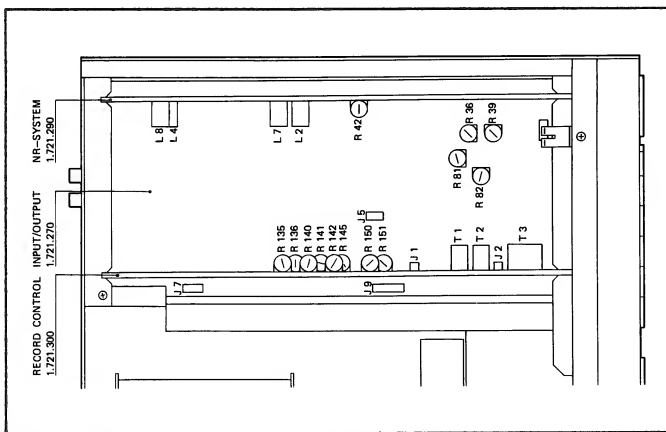

Fig. 5.1
- Align inductors L2 and L4 on NR SYSTEM board to minimum voltage on the output. The attenuation should be $\geq 30 \text{ dB}$ (Fig. 5.1)
- With the trimmer potentiometer R42 (on the NR SYSTEM board) adjust the output level of the right-hand channel to the value of the left-hand channel (Fig. 5.1).
- Adjust the display with trimmer potentiometer R26 (on the SYSTEM CONTROL board) to 0 dB (Fig. 5.1).